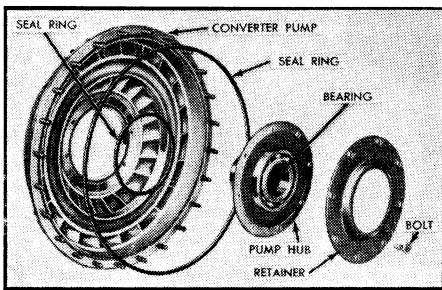

Fig. 23 Converter pump
1. Remove large seal ring from converter pump, Fig. 23.